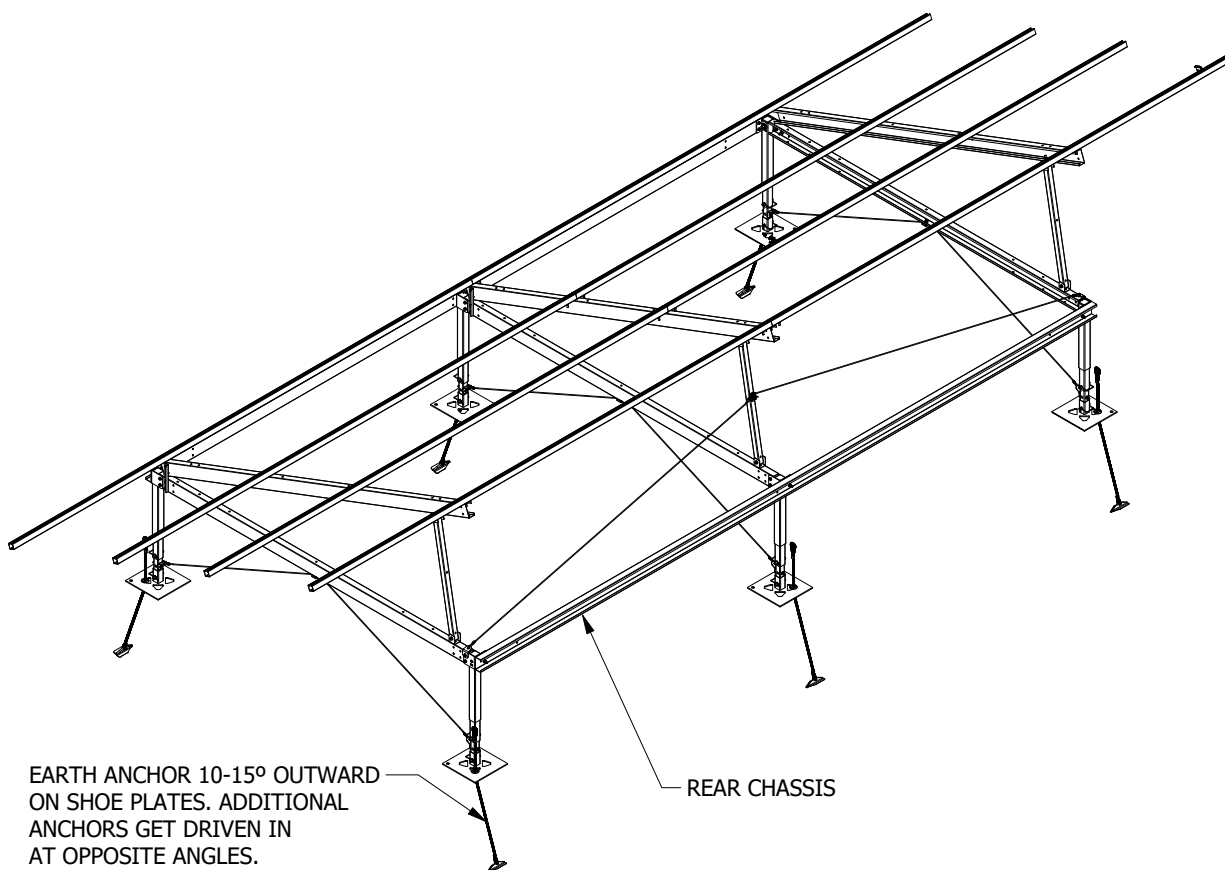

Figure 25: Earth Anchors Installed and Load Tested
16. **All test loads must be recorded, documented on our Anchor load test form (See last page of this manual for a generic copy of this form) and submitted to Nuance Energy for review within 60 days of the installation date via www.nuanceenergy.com/warranty. Refer to Figure 25 below.**